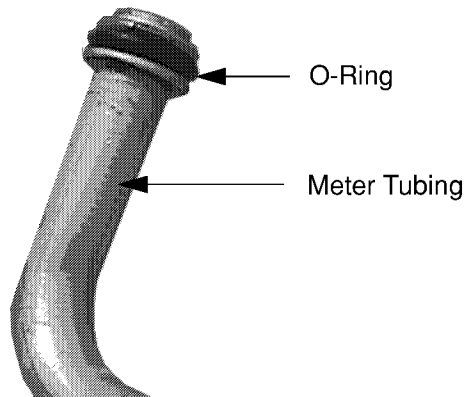

Figure 3-2 Meter Tubing with O-Ring
2. Lubricate the O-Rings from the kit PN 1-921130 with vasoline and install onto the collars of the meter tubing. See Figure 3-2.